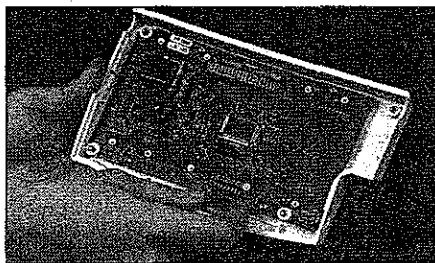

Figure 21
4. Install the display PCB/LCD assembly to the bezel top ensuring alignment of temperature jack, by installing the four (4) 4-40x1/4" Phillips pan-head screws.
5. Reconnect the membrane switch mylar connector to the display PCB (see Figure 21).